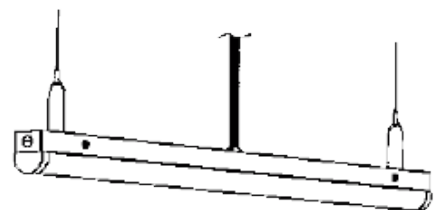

Figure 8
Step 4: Connect the wires according to safety requirements, and then install the lamp body back to the chassis (Figure 8).
Step 3: Press the screws on both sides of the lamp by hand to open the lamp. Step 4: Connect the wires according to safety requirements, and then install the lamp body back to the chassis (Figure 8).